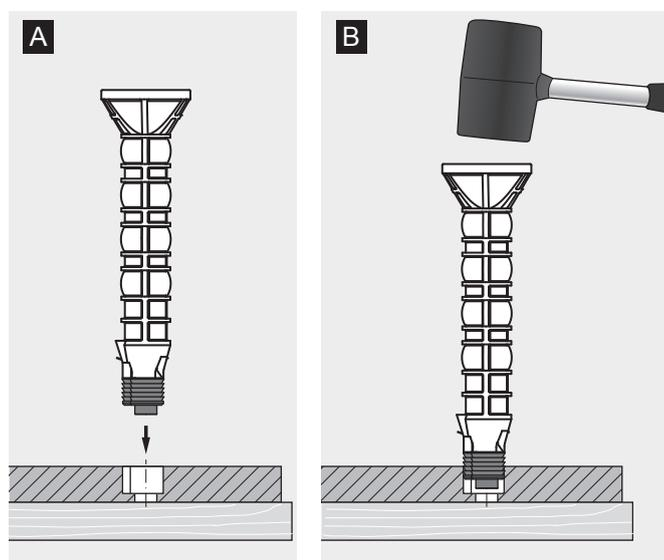

Fig. 17: Positioning (A) and pressing in (B) the holder
3. Press the holder with the tool vertically into the cutout (Fig. 17/A).
4. **NOTICE! Avoid tilting.** Strike the assembly tool with a rubber hammer (Fig. 17/B). To avoid tilting of the holder, you must keep the tool vertical while driving it in.